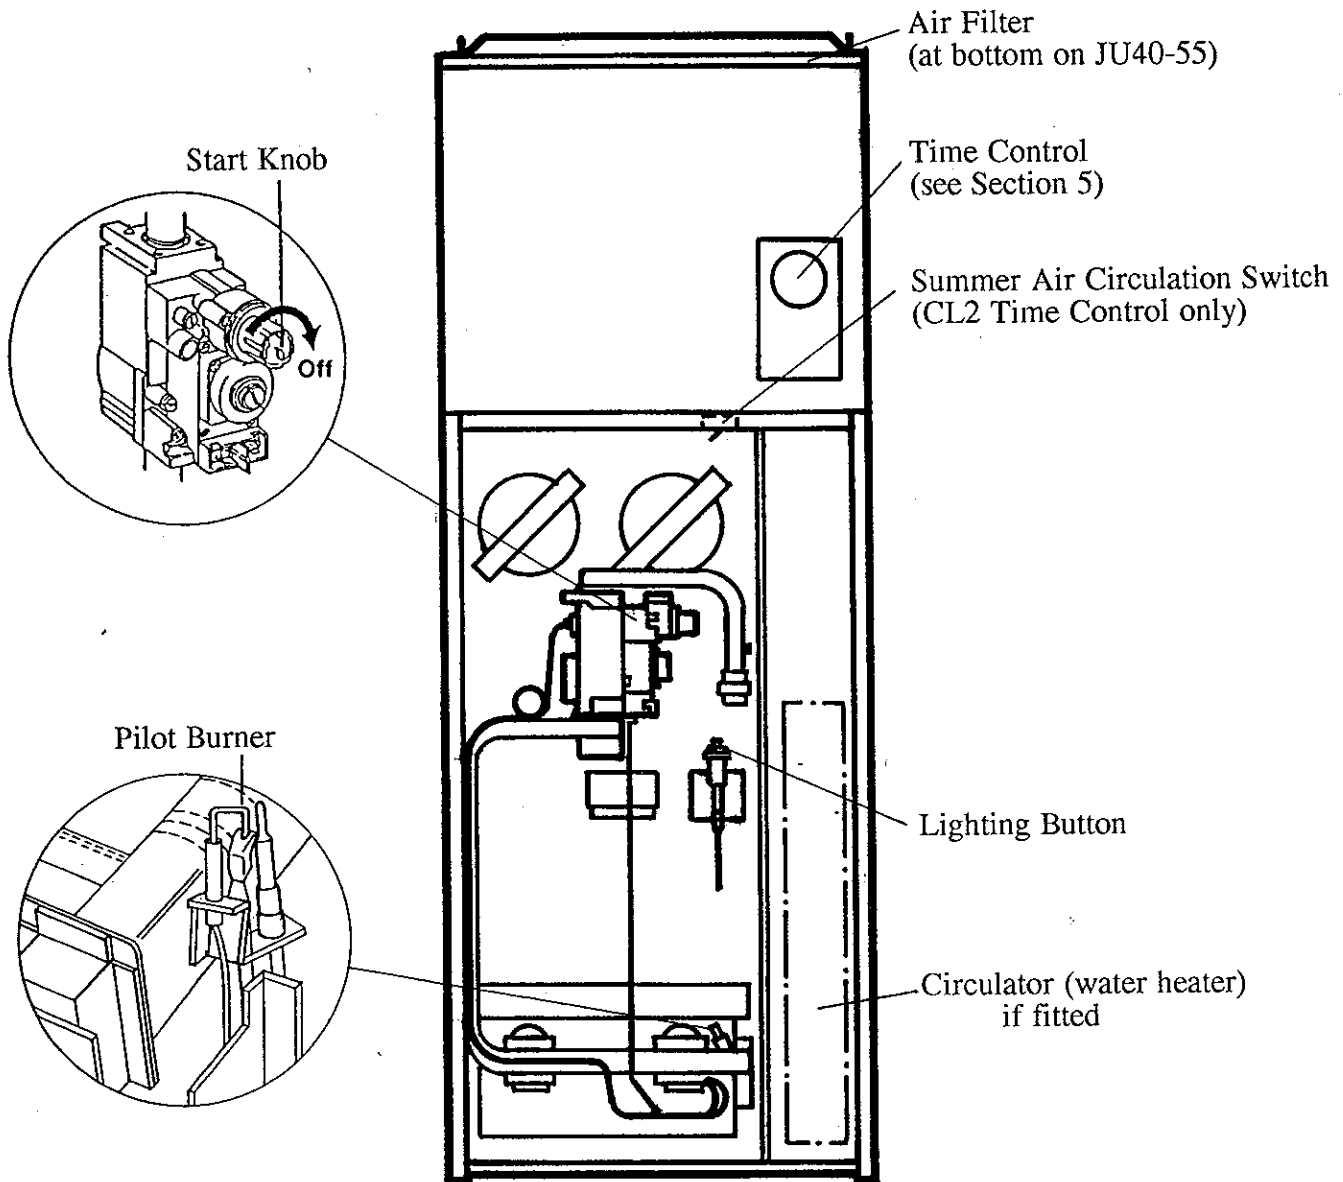

Fig. 1 Typical Air Heater
- 1.2 Identify the positions of the gas control START knob, the black LIGHTING button and the pilot burner from Fig.1 for your model.
- 1.3 Push the START knob in fully and hold (this allows gas supply to the pilot burner), then repeatedly push and release the LIGHTING button until the pilot burner lights. Hold the START knob in for a further 20 seconds, then release it; the pilot burner should remain alight. If it does not, turn the START knob clockwise in the direction of the arrow in Fig.1 and wait 3 minutes before repeating the procedure, holding the START knob in for a little longer than before.
Turn the gas control START knob clockwise (about ¼ turn) in the direction of the arrow (see Fig.1) and turn OFF the electrical supply to the heater.
IMPORTANT: If at any time the main burner does not go out when there is no demand for heat, turn the gas control START knob clockwise in the direction of the arrow (see Fig.1) and contact your service company.
6. AIR FILTER (for position see Fig.1)